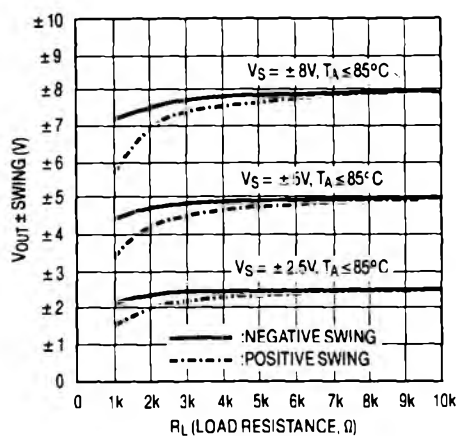

Figure 8. Output Voltage Swing vs Load
sumes 0.5mA and still provides 1.8MHz gain bandwidth product and 3V/μs slew rate. This, combined with almost distortionless swing to the supply rails, Figure 8, makes the LTC1051/LTC1053 op amps nearly general purpose. To further expand this idea, the "aliasing" phenomenon, which could occur under AC conditions, should be described and properly evaluated.
4. When the frequency, f_{IN} , of the input signal is less than f_{CLOCK} , the alias signal(s) amplitude(s) directly scale with the amplitude of the incoming signal. The output "signal to alias ratio" cannot be increased by just boosting the input signal amplitude. However, when the input AC signal frequency well exceeds the clock frequency, the amplitude of the alias signals does not directly scale with the input amplitude. The "signal to alias ratio" increases when the output swings closely to the rails, Figures 5B, 7. It is important to note that the LTC1051/LTC1053 op amps under light loads ($R_L \geq 10k\Omega$) swing closely to the supply rails without generating harmonic distortion, Figure 8.
- For gain higher than -1 , the "signal to alias" ratio decreases at an approximate rate of $-6dB$ per decade of closed loop gain Figure 8.